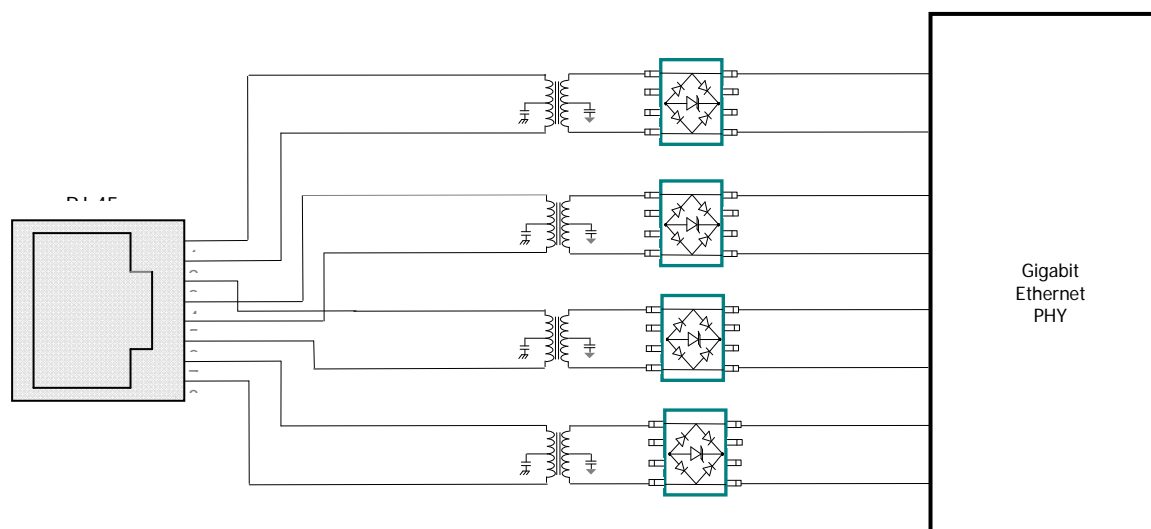

Figure 4 – RClamp2502L Flow-through layout for Gigabit Ethernet Protection
- When available, use flow-through packages on high speed interfaces. These packages allow for placing the protection component directly over the PCB differential pair. This eliminates stubs and unnecessary bends in the traces, which helps preserve signal quality. Figure 4 shows an example of how flow-through packages can be implemented.